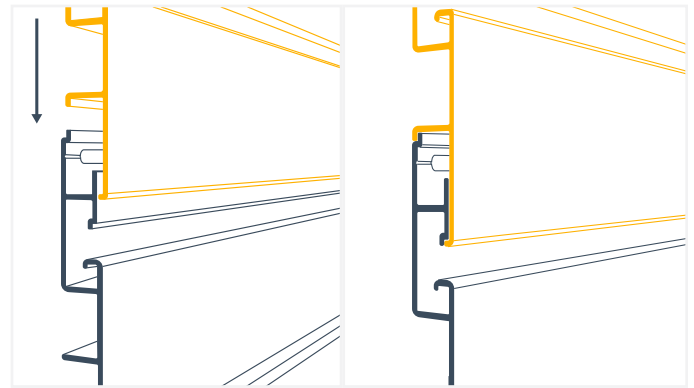

Fig. 18
2. Starting at one end and moving to the other, apply gentle downward pressure (towards the floor) to interlock the panel with the previously installed panel below. You will feel and hear a "snap" when the panels have properly interlocked together (Fig. 18).